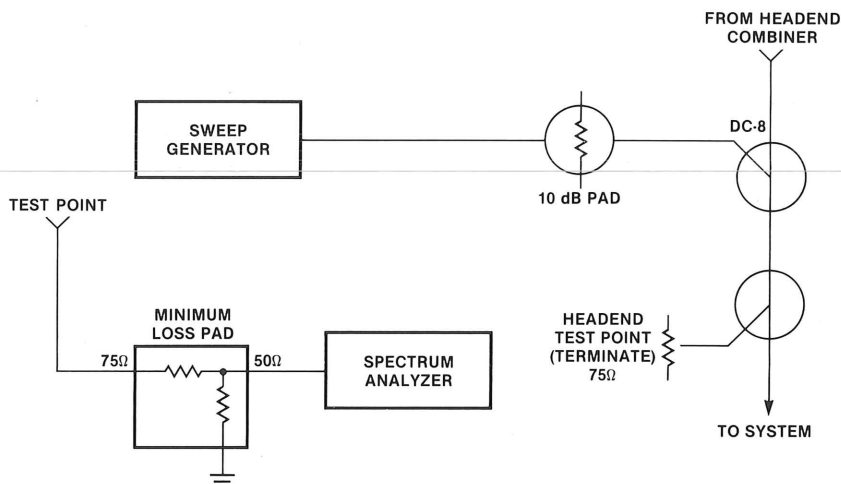

Figure 7-1. Equipment connection for distribution system frequency response measurement.
1. Set up the equipment as illustrated in figure 7-1.